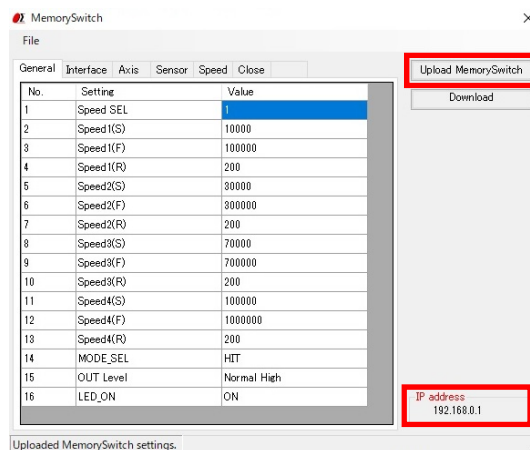

Figure 2-3: Please check IP address
④ Please choose a Upload Memory Switch. (Figure 2-3.)
⑤ Please check IP adress at the bottom right of the screen.